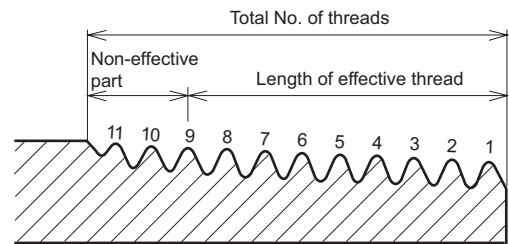

Fig.59
- Confirm whether the thread length is as it should be according to the number of threads as shown in Fig. 59 below.